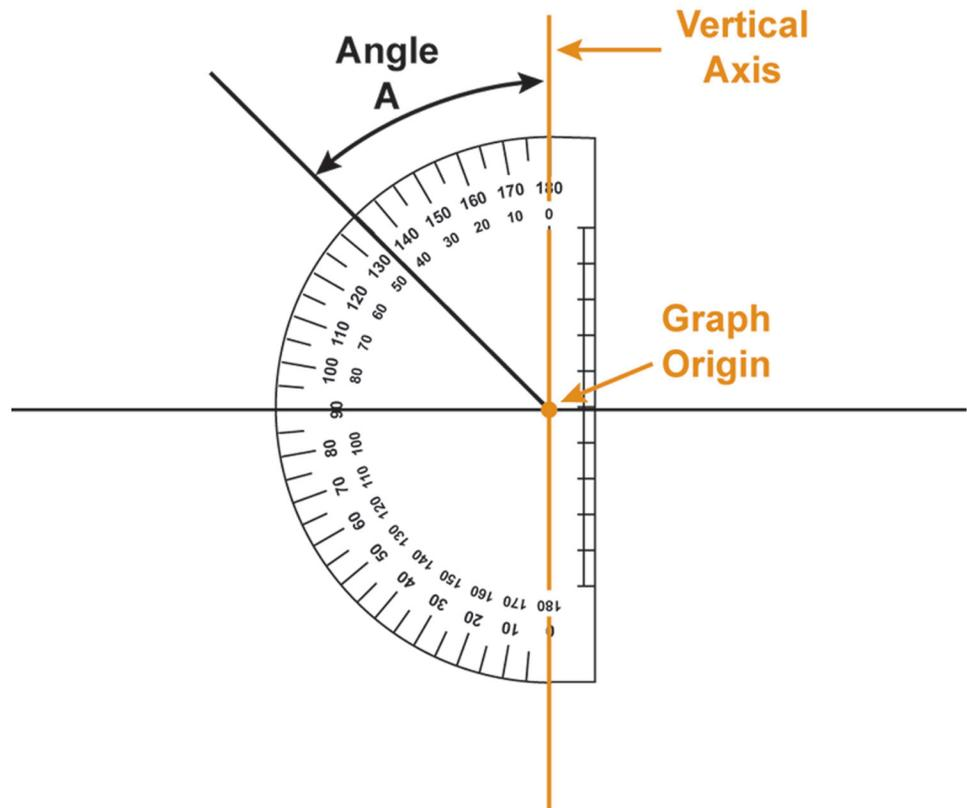

Figure 7
1. Place the protractor center over the graph origin under Graphing the Data, Data Graph 1. Align the protractor baseline with the vertical axis of the graph. See Figure 7.